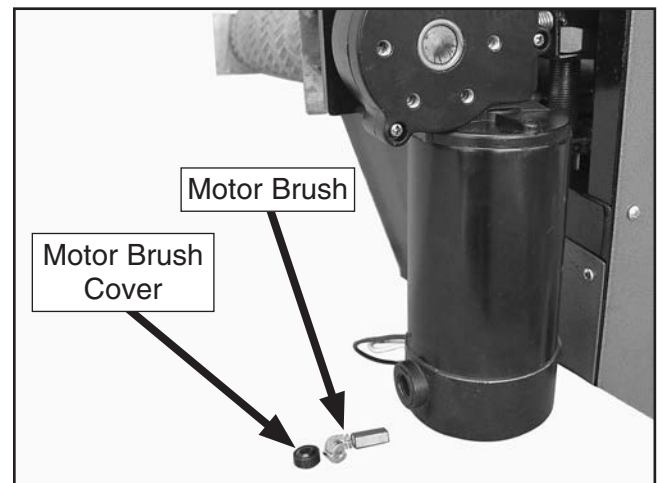

Figure 53. Motor brush components removed (one of two brushes shown).
2. Remove each brush cover and remove the brushes from the motor, as shown in **Figure 53**.